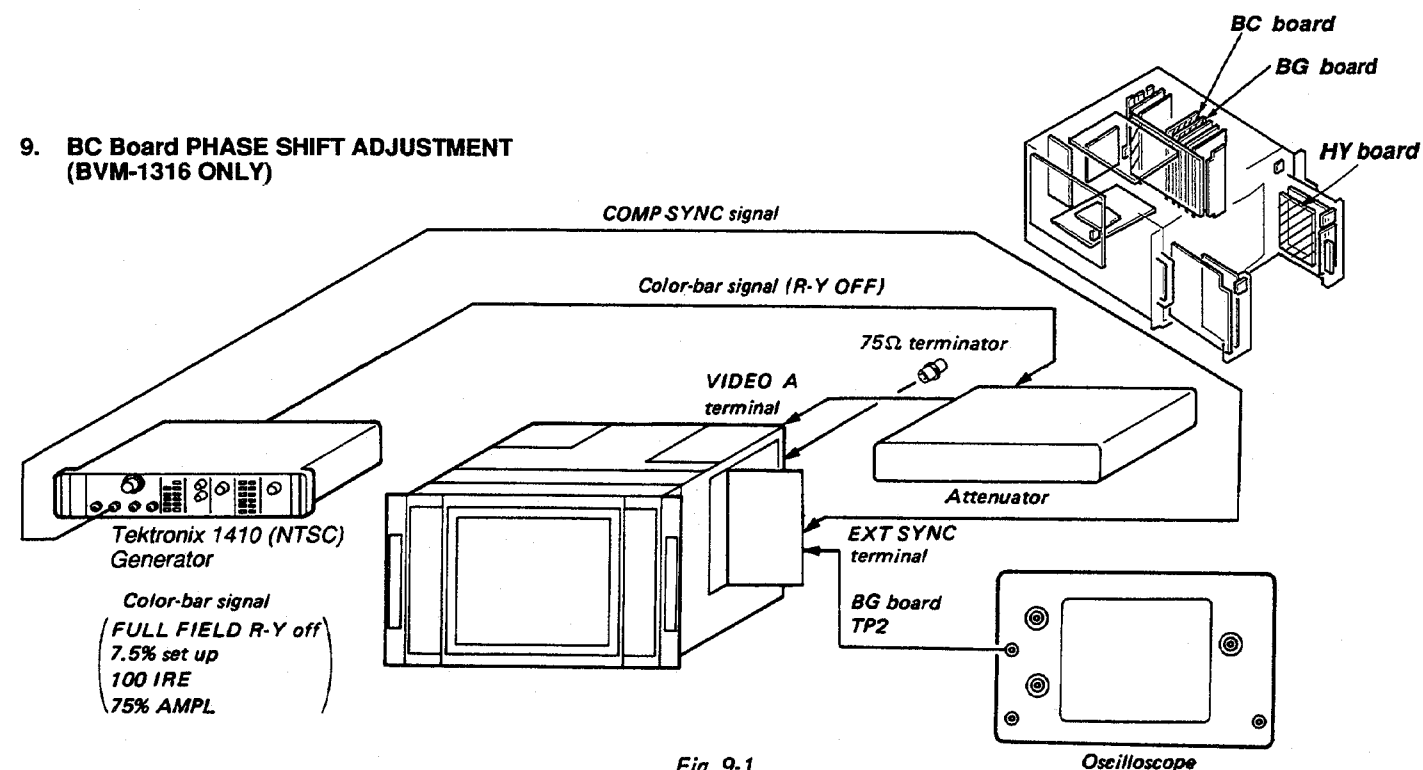

Fig. 9-1
- Complete the connection as shown in Fig 9-1.